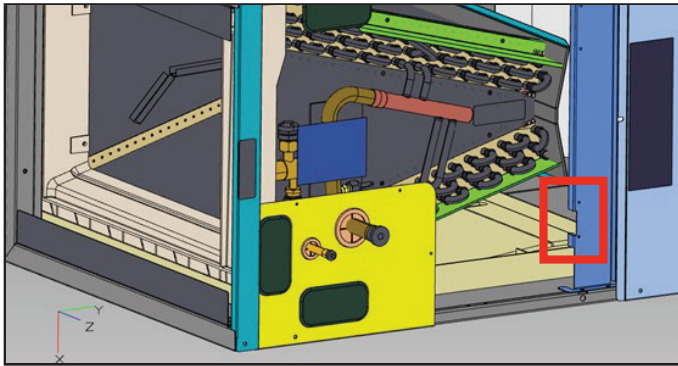

FIGURE 10
- 3 - With air handler unit panels removed, install sensor bracket assembly to the unit by lining up holes in the center support bracket as shown in figure 10. Note: sensor should be facing toward the inside of the unit.